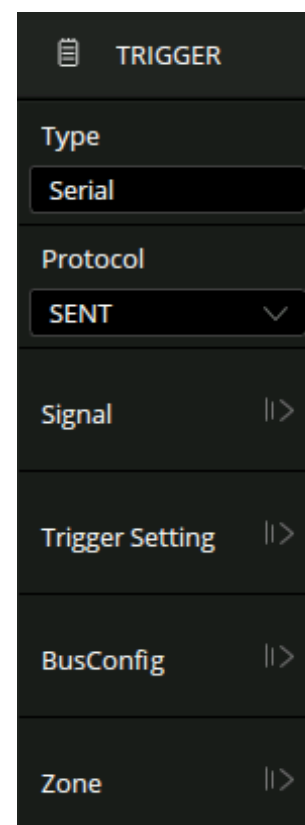

Figure 10.53 SENT Trigger
1. Touch the **Trigger** dialog box to display the **Trigger** menu.(Figure 10.53)